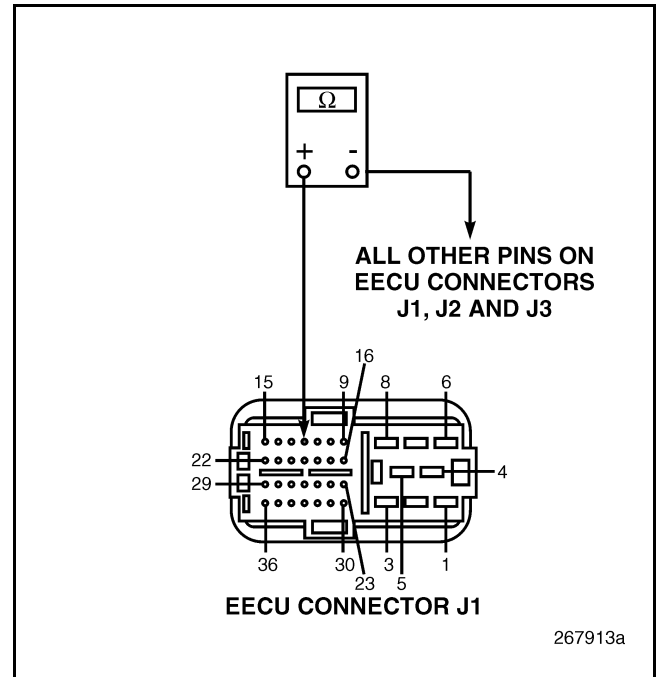

Figure 113
4. Check for continuity between EECU connector J1 pin 12 and all other pins on EECU connectors J1, J2, and J3 (see Figure 113). If continuity exists, pin 12 is shorted to one of the other EECU circuits. Locate and repair the short circuit. If there is NO continuity, go to test "Test 20 — Checking the Engine Electronic Control Unit (EECU) for an Open Circuit" on page 116.